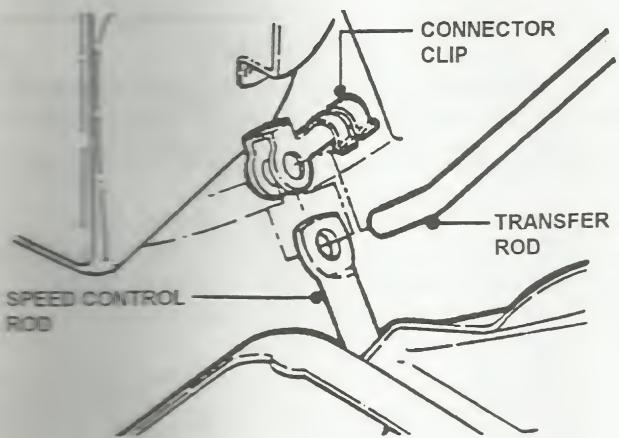

FIGURE 4.11
- Using a small flat blade screwdriver, free the clip from the transfer rod. Then remove the transfer rod from the clip and the speed control rod. See Figure 4.11.